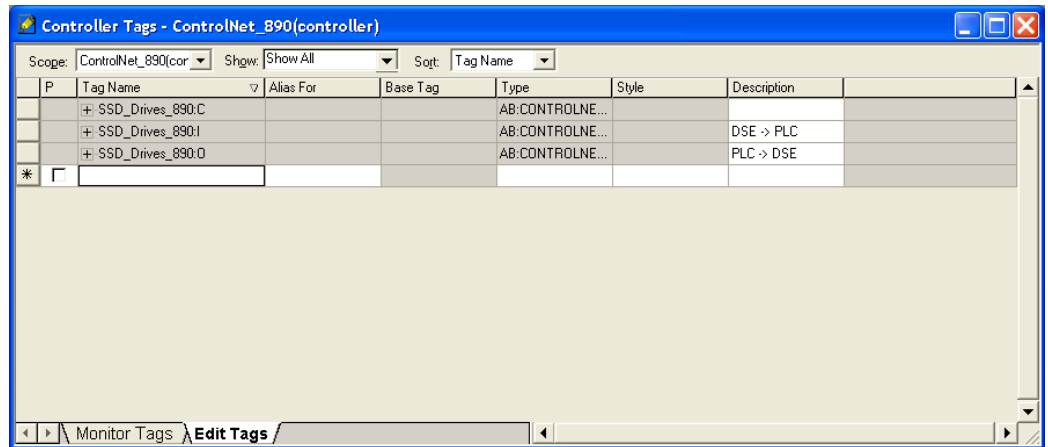

Figure 16. Monitor Tags
7. To monitor the tags created, double-click on Controller Tags. Refer to Figure 16.